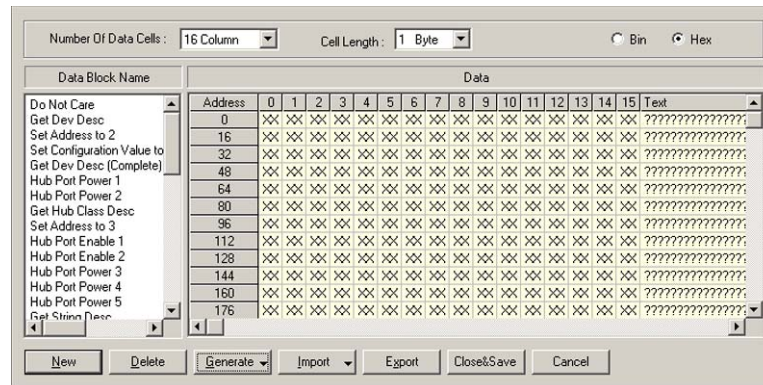

Figure 60 Default Data Block Dialog Box
1. To create a data block, click the **Default Data Block** button on the Main toolbar to open the Data Block dialog box, as shown in Figure 60.